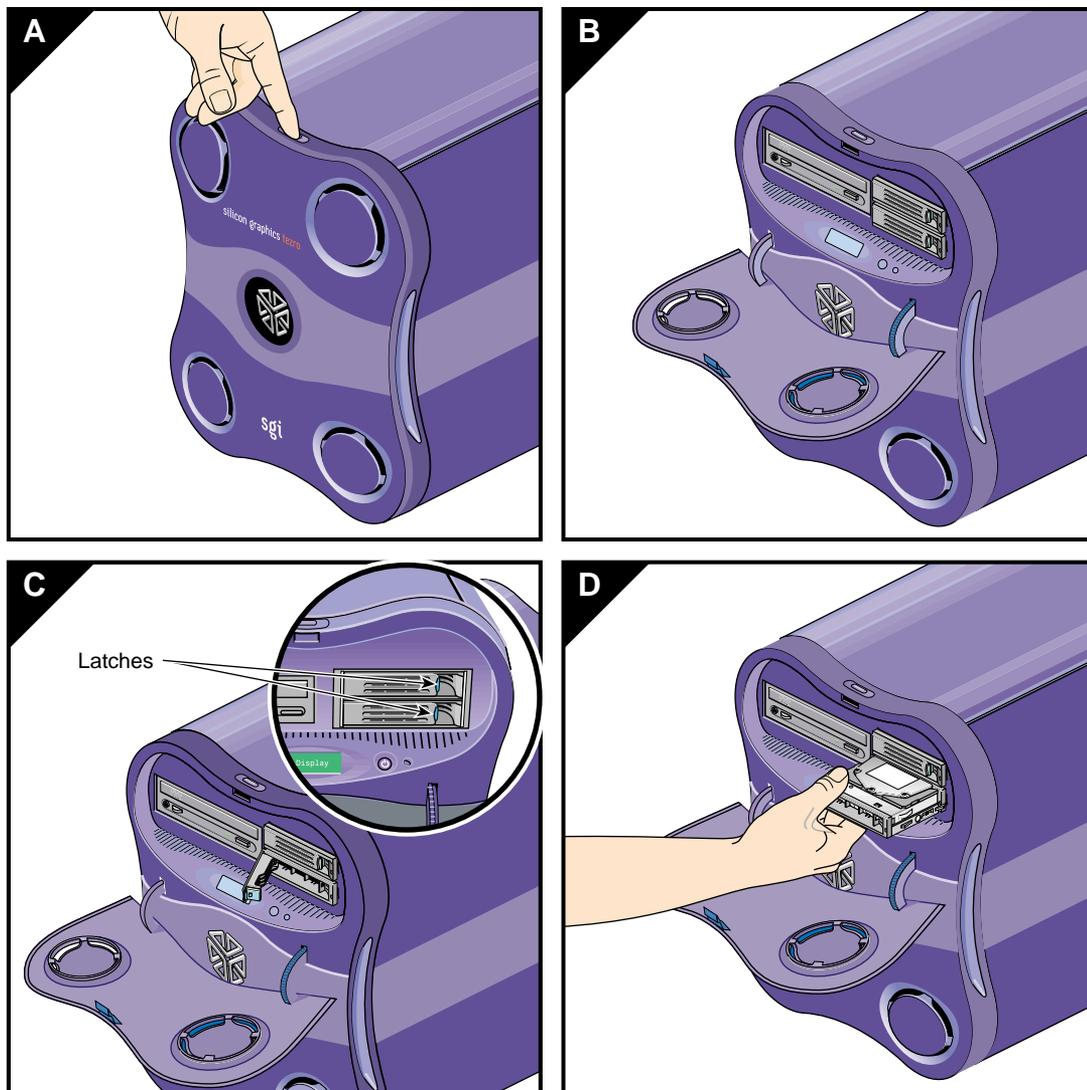

Figure 3-11 Installing an Internal Hard Disk Drive
2. Move the handle on the drive you are installing to the fully open position. Then position the drive sled so that it engages the drive bay guide rails (see Figure 3-11).
3. Gently push the drive sled into the drive bay until the locking handle engages with left side of the bay opening. Then swing the locking handle towards the enclosure until it latches (see Figure 3-11).
2. Press in on the right side of the locking handle; the handle will unlatch from the enclosure (see Figure 3-11).
3. Swing the locking handle away from the enclosure until it is fully open. Then carefully slide the drive sled out of the drive bay. Do not pull the drive sled out by the locking handle (see Figure 3-11).